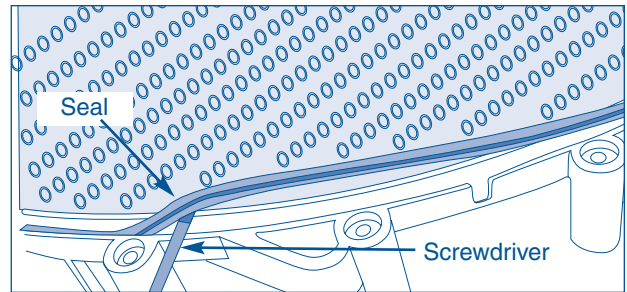

Figure 4-60.
14. The seal between the (2) tub halves is placed in the groove of the rear half and can be lifted out with a flat bladed screwdriver. (See Figure 4-60)